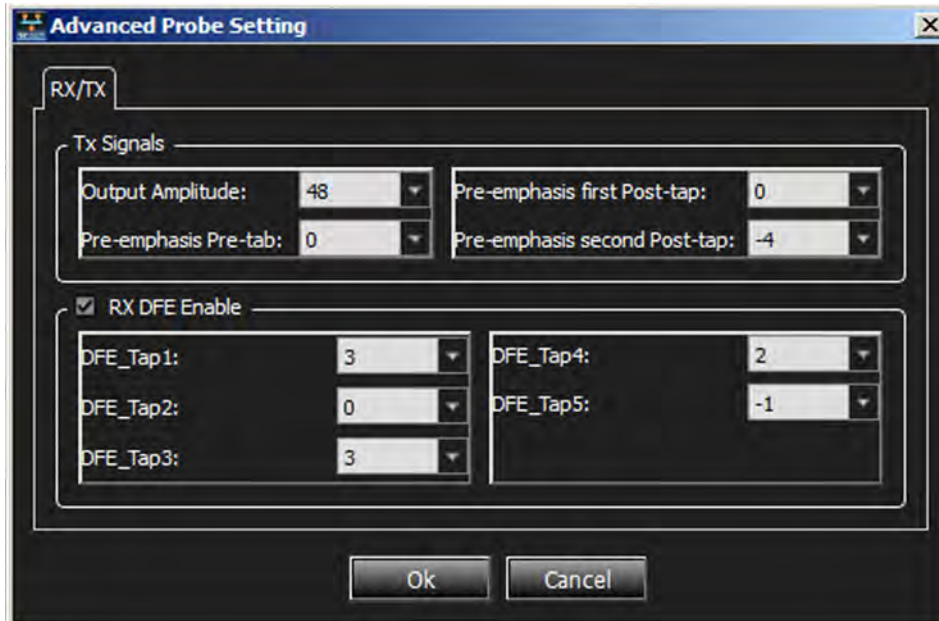

Figure 4.21: Advanced Probe Setting Window for 40 GigE Device
- Advanced: Displays the Advanced Probe Setting window (Figure 4.21). Enter the desired values for each of the parameters.